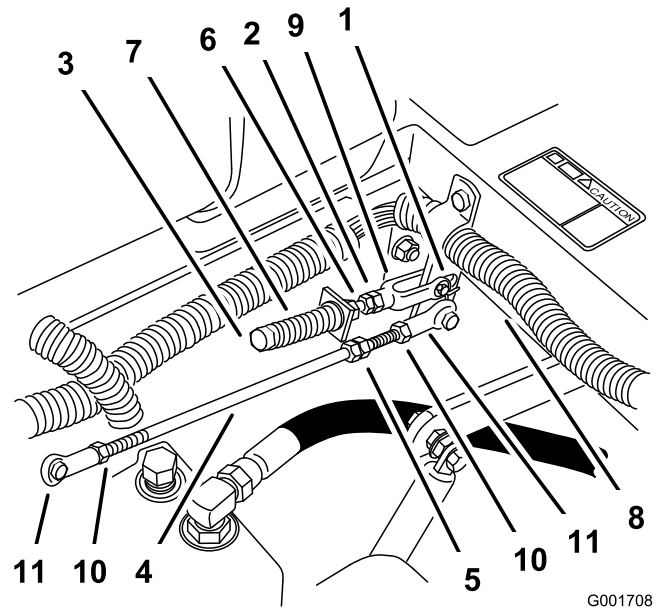

Figure 55
8. If adjustment is needed, loosen the nut and jam nut against the yoke (Figure 55).
9. Apply slight rearward pressure on the motion control lever, turn the head of the adjustment bolt in the appropriate direction until the control lever is centered in the neutral lock position (Figure 55).
10. Tighten the nut and jam nut (Figure 55).